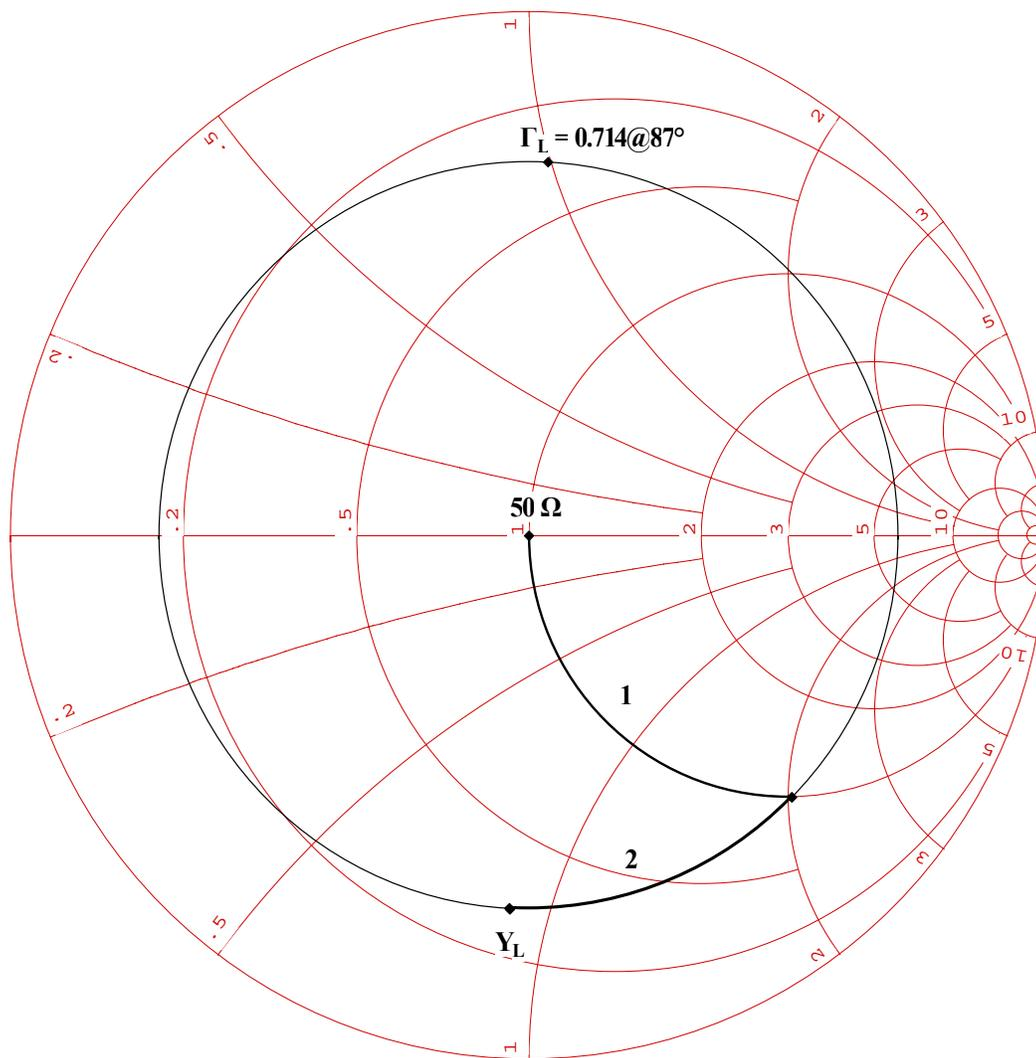

Figure 3.7c
8. Repeating the above procedure for the Output Matching Network except we use a short circuit stub, we get a *short-Stub* = 0.073, and a *series-Line* = 0.067 for the micro-strip parameters. The design plot for the Output Matching Network is shown in Figure 3.7c.